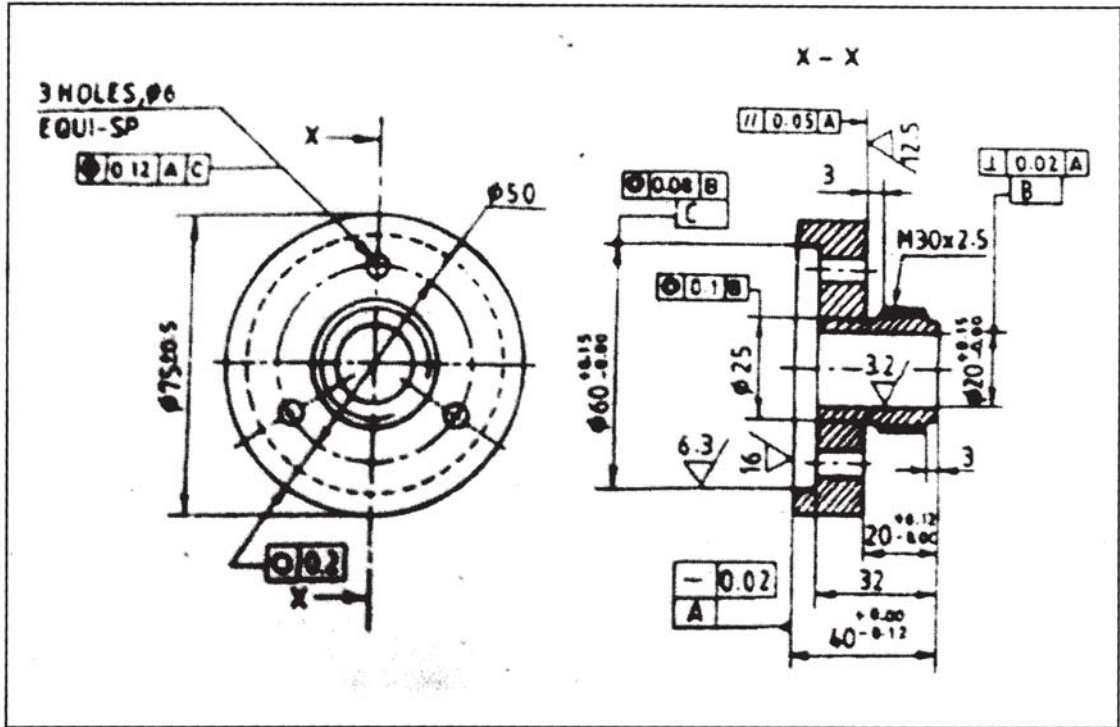

Fig. No. 2. Flange
- Q4)** a) A figure No. 2 shows a truss consisting of three elements cross sectional area for each element is 200 mm^2 and modulus of elasticity is 200 GPa, Determine the deflection, reaction forces and stresses in each element. [12]